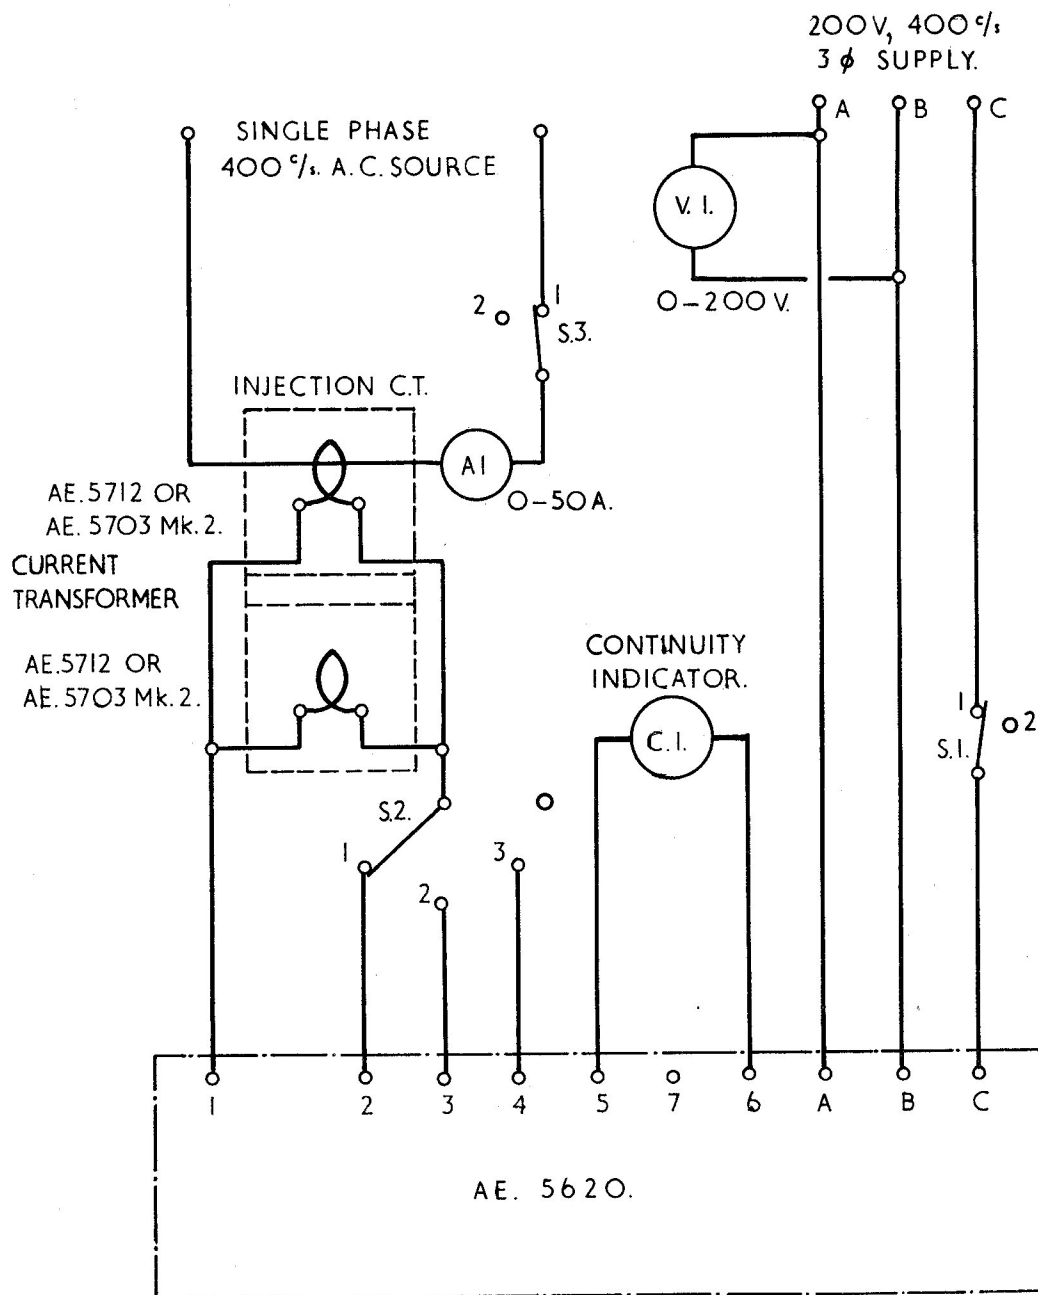
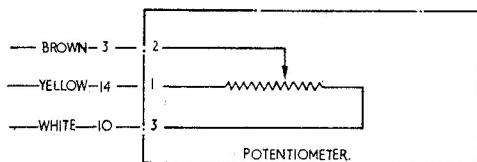

Fig. 4. Functional test circuit
Fig. 5. Potentiometer connections
23. (1) Connect the unit to the functional test circuit shown in fig. 4.
- (2) Replace potentiometer with new 2,000 ohm Painton potentiometer, see potentiometer connections, fig. 5.
- (3) Set potentiometer RV1 to extreme clockwise position.
- (4) Connect unit to functional test circuit shown in fig. 4.
- (5) Select switches S1, S2 and S3 to position 1.
- (6) Adjust supply so that V1 indicates 200 volts.
(7) Check the d.c. voltage of the unit, using a 0-50 volt instrument, between terminal No. 1 and the coil supply terminal of the relay, which has a green wire with a terminal lug identified as No. 7 connected to it, and reject the unit if the voltage is less than 33 volts.
(8) Adjust the current flow through the current transformer primary so that A1 indicates 42 amperes.
(9) Adjust potentiometer RV1 so that the unit operates as observed on the continuity indicator C1. Note value of A1 and temporarily lock potentiometer RV1.
(10) Select switch S2 to position 2 and carefully adjust the current of the current transformer primary so that the unit operates. Note value of A1.
(11) Select switch S2 to position 3 and carefully adjust the current of the current transformer primary so that unit operates. Note value of A1.
(12) Determine the middle value of A1 for the three selections of switch S2 from sub-paragraphs (9), (10) and (11) and then select the corresponding position on switch S2.
(13) Set the current of the current transformer primary to 42 amperes, unlock potentiometer RV1 and adjust it slowly so that the unit operates. Positively lock the adjusting screw of potentiometer using Araldite 'F'.
(14) Select in turn the other positions of switch S2 and adjust the value of A1 in each selection so that the unit operates. The values should be within 42 ± 1 ampere.